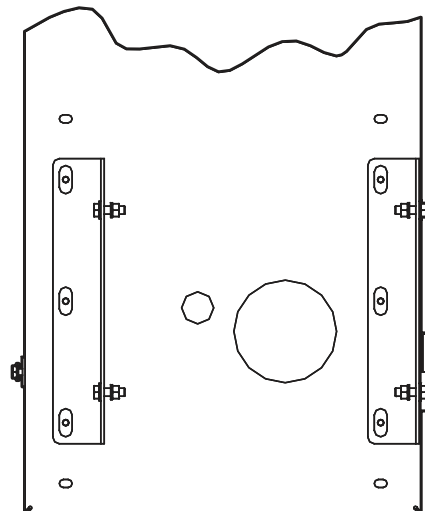

Figure 15 – Mounting Brackets in Position C
2. Using the hardware provided, assemble the two brackets to the back cover as shown in Figure 15. Note that the brackets are mounted so that the angles of the brackets are mounted in the same direction. Do not fully tighten these bolts.